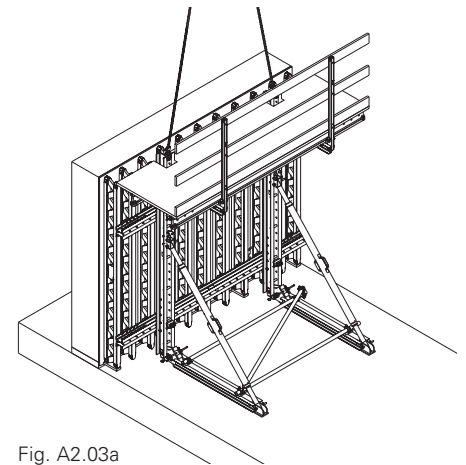

Fig. A2.03a
5. Move formwork with concreting platform to the Starter Bars (19) by means of the crane.
7. Adjust length S of the two Heavy Duty Spindles (8).
- at the bottom on the Starter Bar (19).
9. Screw Anchor Bolt PERI 14/20 x 130 (28) onto the end of the Starter Bar.
11. Turn Heavy Duty Spindle (8) until the formwork has been vertically adjusted.
12. Mount scaffold tubes (5.3) with swivel couplings (22) on the Starter Bar. (Fig. A2.03a)